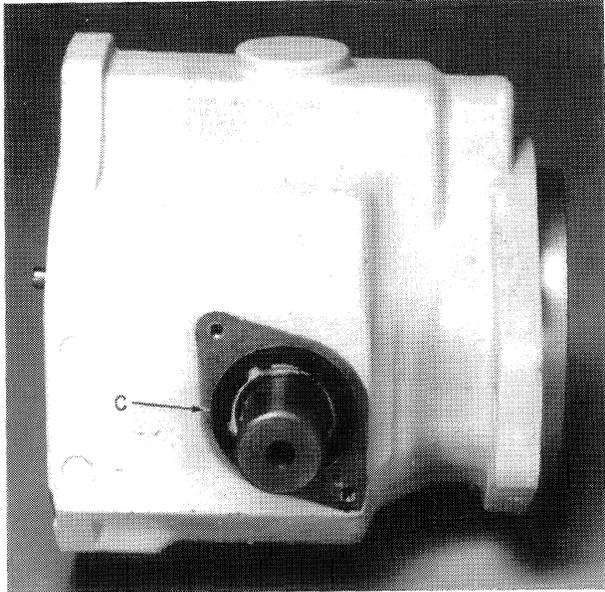
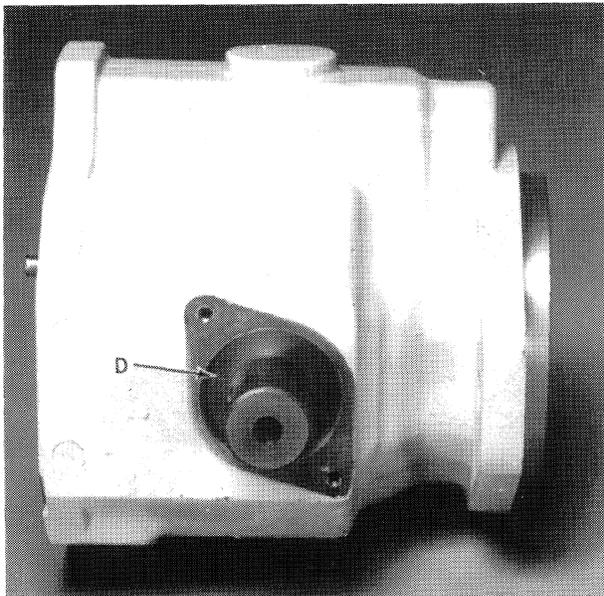

FIGURE 4-13
FIGURE 4-14
- d. Remove seal, C, Figure 4-13, and washer, D, Figure 4-14.